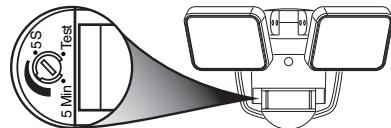

Figure 7
- Turn the control dial to set the amount of time you want the lights to stay on after all motion has stopped (adjustable between 5 seconds and 5 minutes) (see Figure 7). **Note:** When set between 5 seconds and 5 minutes, the light fixture will only work after dark (sunset).